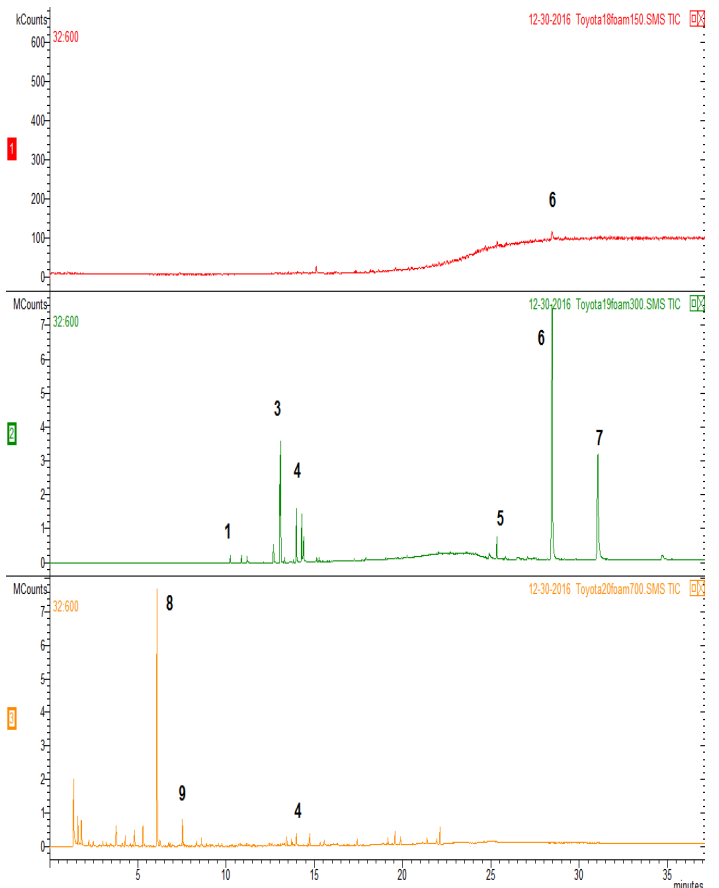

Figure 3: 3 Temperature of Inner Foam Layer: 150°C (top), 300°C (middle), and 700°C (bottom).
The foam in the center was run at 3 temperatures; 150°C for volatiles, 300°C for semi-volatiles, and then 700°C (Figure 3). A small amount of didecyl phthalate plasticizer is seen at 150°C. At 300°C more phthalate plasticizers are seen(5,6,7), and the polymer starts to break down. Toluene diisocyanates (TDI, 3) indicate that the foam is a polyurethane made with TDI. Triethyl phosphate(1) is commonly added as a flame retardant. At 700°C, styrene and alpha methyl styrene are the major components (8,9). The foam is of polyurethane construction and the polystyrene noted could be from from the adhesive between the layers or was added with the polyurethane during the manufacturing process.